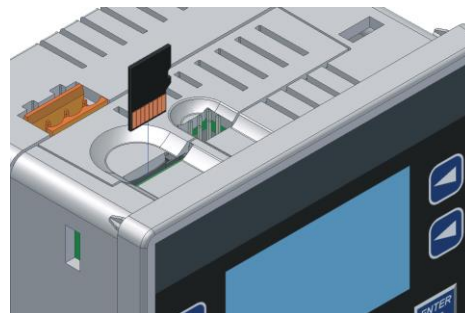

Figure 16.2 - Installing Removable Memory Card
**To install a microSD card:** Align its 8-pin gold edge connector down, facing the front of the XL4 OCS unit as shown in Figure 16.2; then carefully push it all the way into the Memory Card slot. Ensure that it clicks into place.